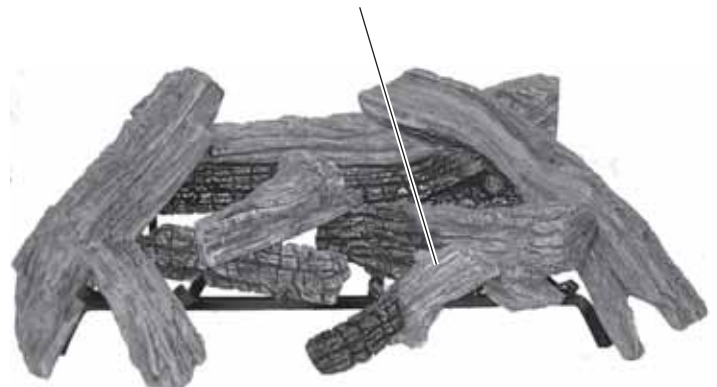

Figure 92 - Resting Front Right Log (#8) on Top Right Log and Front of Burner Pan
9. Rest Right Front Log #8 on top right log #4 and front of burner pan. *See Figure 92*